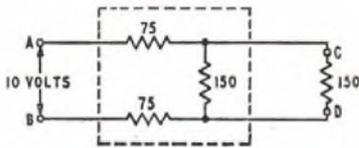

Fig. 2
(b) In the circuit shown in Fig. 2 an a.c. source maintains 10 volts r.m.s. across AB . Calculate
- (ii) the ratio in decibels between the power in the 150-ohm resistor in Fig. 3 and the 150-ohm resistor CD in Fig. 2
(b) The circuit of Fig. 2 is equivalent to that in the sketch because the two 150 ohm resistors are in parallel.
$$\text{the power in the 150-ohm resistor in Fig. 2} = \left(\frac{10}{3}\right)^2 \frac{1}{150},$$